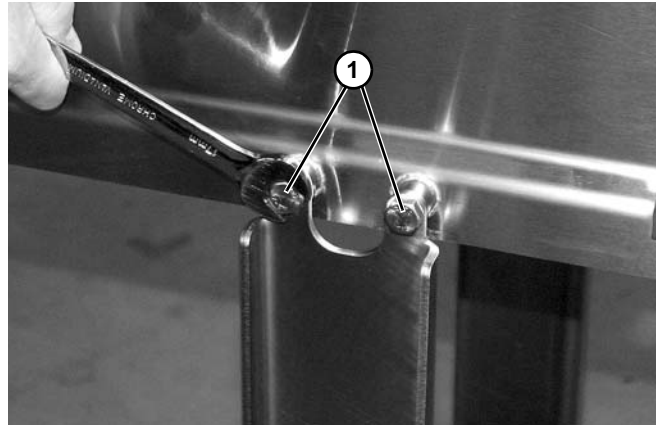

Figure 36
5. Remove two screws (Figure 36, item 1) securing the stand brackets from one side of the conveyor.